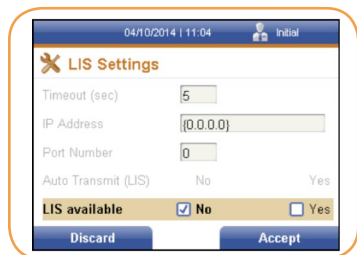

FIGURE 21
2. Press the right soft key to select it. The LIS Settings screen is displayed (Figure 21).